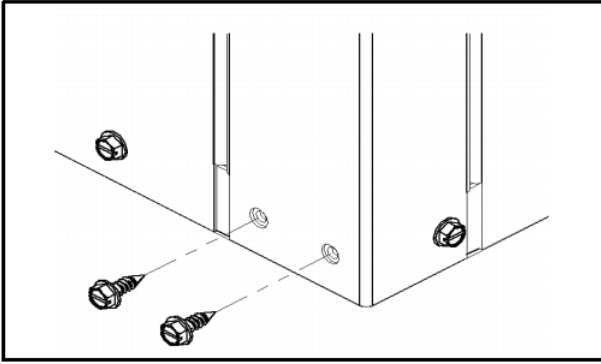

Fig. 7 — Removing Factory Screws
1. Remove and discard factory-provided screws from location where hanging brackets will be installed. (see Fig. 7).